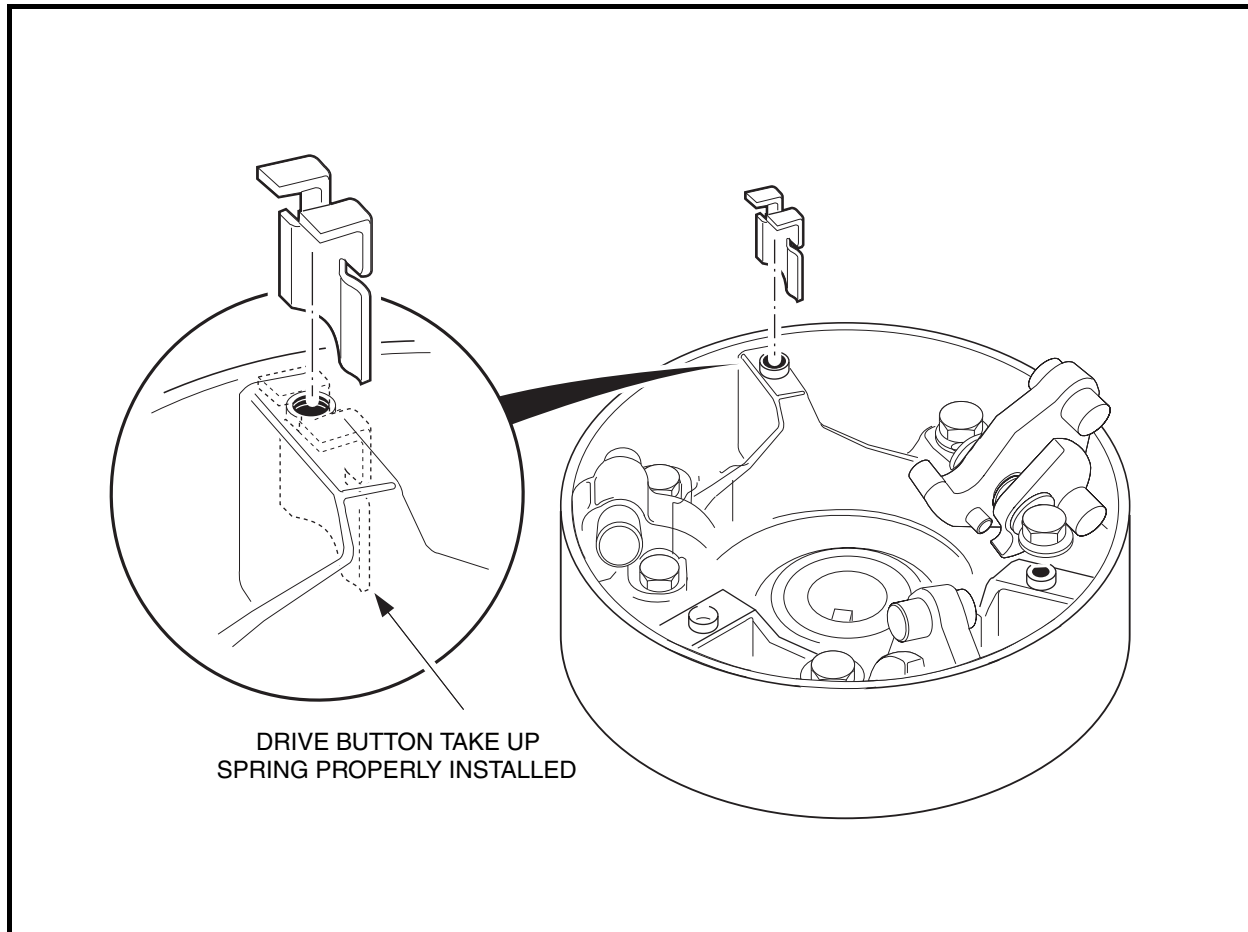

Figure 17-15 Correct Orientation of Drive Button Take-up Spring
- 13.1. Install each spring on right-hand side of the three button mounting posts (when looking into the interior of the clutch drive hub, and with a rib at a twelve o'clock position) as shown (**Figure 17-15, Page 17-12**).